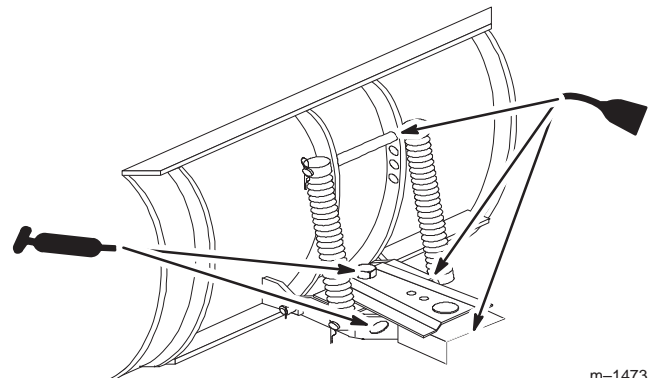

Figure 20
3. Clean the area around the channel pivot with a rag. Apply grease to the pivot bolt, frame, and channel indexing holes (Fig. 20).
2. Place a few drops of oil on all movable linkages (Fig. 20).